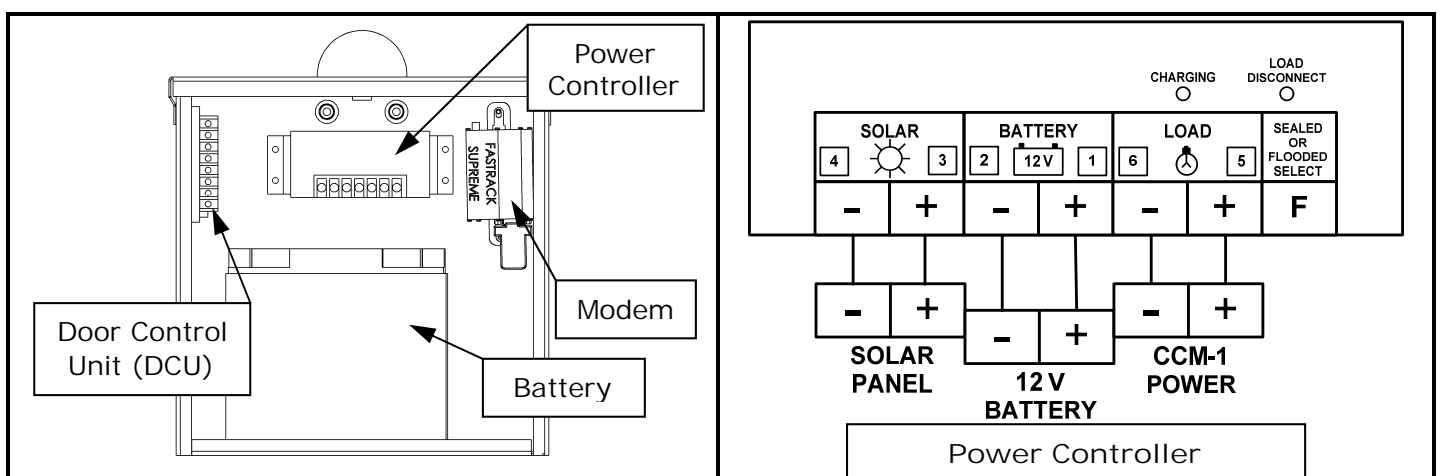

Figure 1
The six (6) system connections to the controller terminals are numbered "1" to "6" on the label as shown in Figure 1. It is recommended that the connections be made in order from 1 to 6.